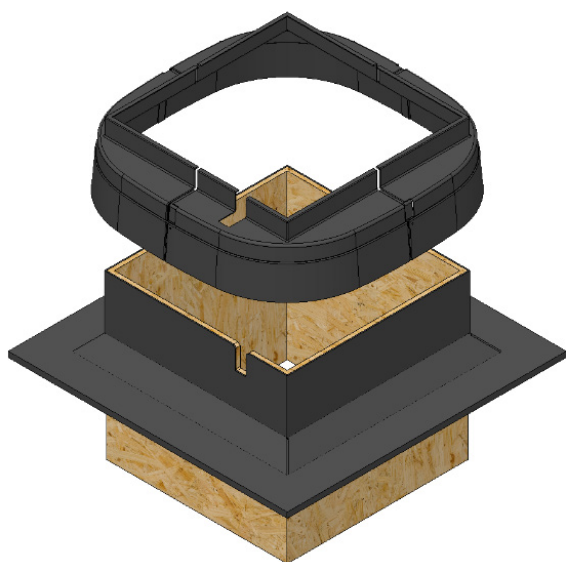

Figure 23 – Skirt extension position.
1. Lower cowl extension skirt onto roof upstand, ensure the cut out on the skirt aligns with the cut out on the upstand - *see figure 23.*